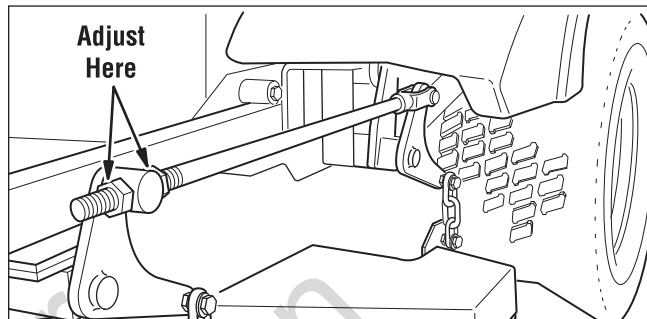

Figure 40. Adjust Lift Rod Timing
4. Refer to Figure 40. To adjust the lift rod timing, adjust the 5/8" hex nuts on either side of the front lift pivot until the measurements are equal. Repeat for other side.